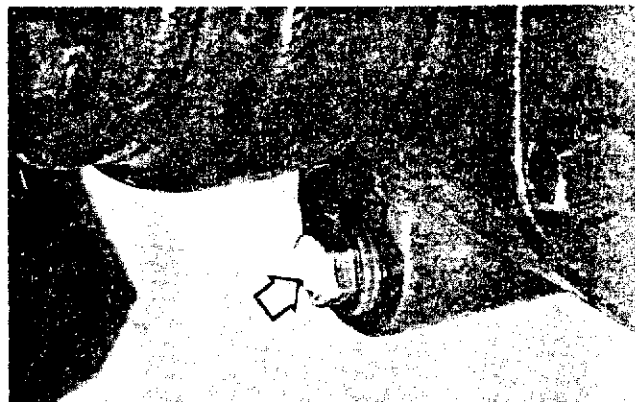

Figure 58 — Front Axle Differential Drain Plugs
**Changing Oil:** Drain the front axle differential case every 300 hours by removing the drain plug, Figure 58. Replenish with a high-quality, extreme pressure gear lubricant with an anti-foam additive. Refer to the following chart for recommended viscosity grades.